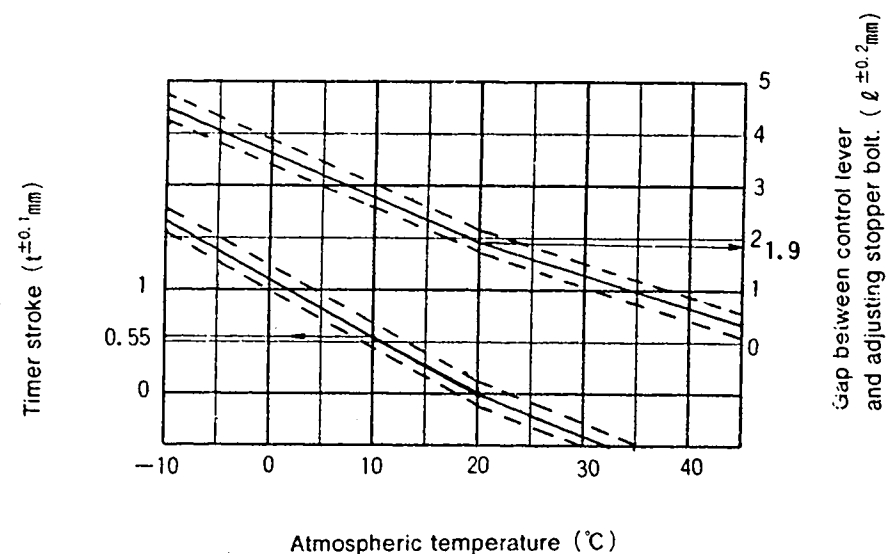

Fig. 2
- Calculate the timer stroke from Fig. 2 according to the atmospheric temperature at the time of adjustment.
- Calculate block gauge dimension  $l \pm 0.05$  mm from Fig. 2 according to the atmospheric temperature at the time of adjustment.
Formula for calculating Fig. 2